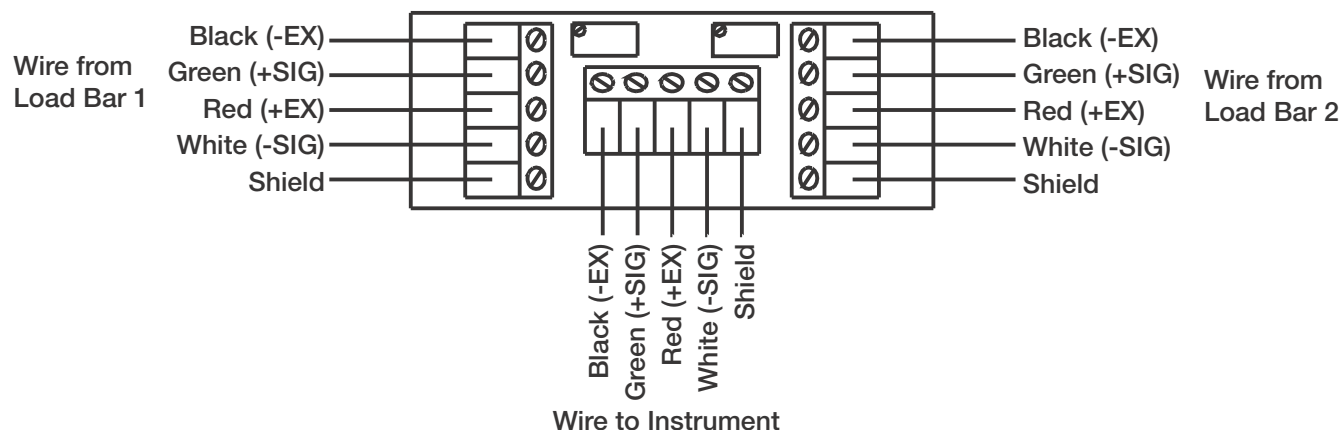

Figure 6-1. Junction Box Wire
*See Figure 6-1
To check a load bar separately, it must be completely disconnected from the scale's electrical circuit. This is accomplished by disconnecting the load bar at the scale's junction box, Figure 6-1. However if the junction box contains a Weights & Measures seal, consult your scale dealer before proceeding. To disconnect a load bar, loosen the screws on the circuit board for the load bar in question, and remove the wires. Resistance measurements can now be taken as shown in Table 6-1, and should correspond with the values in the "One Load Bar" column in the same way as described above. If not, consult your scale dealer. The dealer may ask you to check the individual load cells.